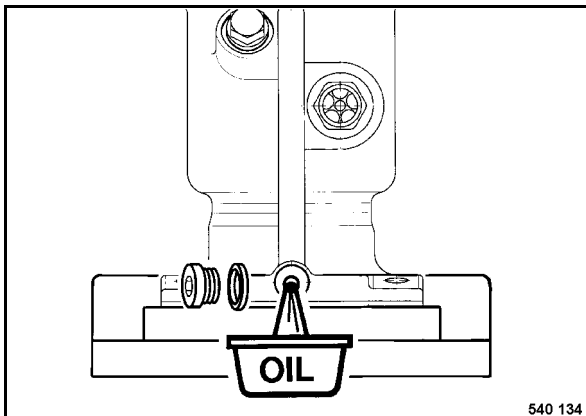

Fig. 53
- Clean and unscrew the oil drain plug (Fig. 53), let the old oil run out and catch it.